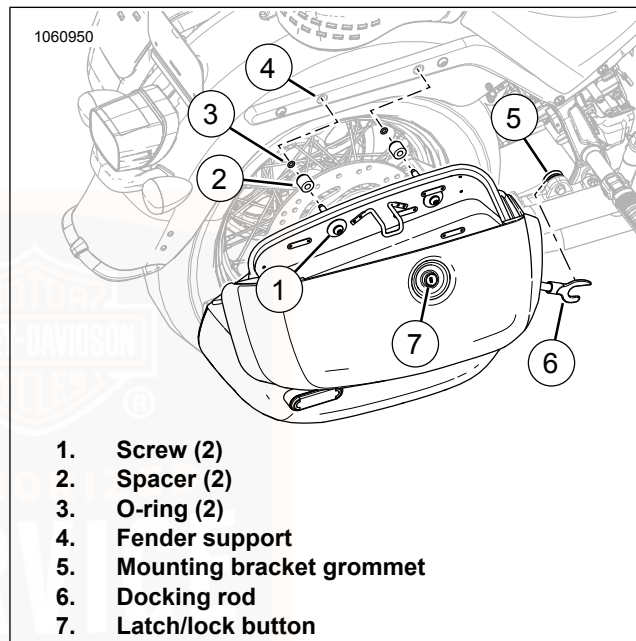

Figure 48. Saddlebag Assembly
1. See Figure 48. Unlock saddlebag.
- a. Insert key into latch button (7) and rotate one-half turn counterclockwise.
3. See Figure 48. Lock saddlebag.
- a. Insert key into latch button (7) and rotate one-half turn clockwise.
1. See Figure 48. Open saddlebags.
2. Use one hand to support the saddlebag and another hand to remove the saddlebag mounting screws (1).
1. See Figure 48. Verify spacers (2), O-rings (3), and grommets (5) are in place and in good condition.
2. Align the saddlebag docking rod with the mounting bracket grommet (5).
3. Align the saddlebag with the mounting holes on the fender support (4).